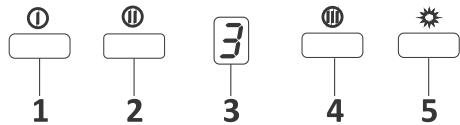

Fig. 15: 3 Spd Dig Button
1. ➤ Press this button to turn on the product. Product will also run on 1st speed level when this button is pressed.Fig. 15
2. ➤ Product will run on 2nd speed level when this button is pressed.Fig. 15
3. ➤ Dig display You can follow which speed the product is currently working on this display.Fig. 15
4. ➤ Product will run on 3rd speed level when this button is pressed.Fig. 15
5. ➤ Press this button to turn on and off the lamp.Fig. 15
6. ➤ Pressing and holding any of the motor operation buttons for more than 2 seconds will initiate a timer function of 15 minutes. A signal will be Displayed once the timer starts and the motor will stop automatically after 15 minutes.Fig. 15